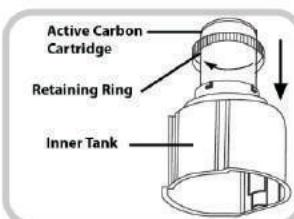

Fig.8
3. To Install the Active Carbon Filter turn the Inner Tank upside down. Make sure the Large O Ring sits on top of the filter and place it on the Inner Tank. Slide down the Retaining Ring and align the pegs with the openings of the Inner Tank base. Turn it clockwise to secure the filter. (Fig. 8). Place the Upper Barrel on top of the Lower Barrel by aligning the edges of both parts (Fig. 9). Slide the Inner Tank with the filter attached into the Upper Barrel (the top edge of the Inner Tank will sit on the top edge of the Upper Barrel). (Fig. 10).